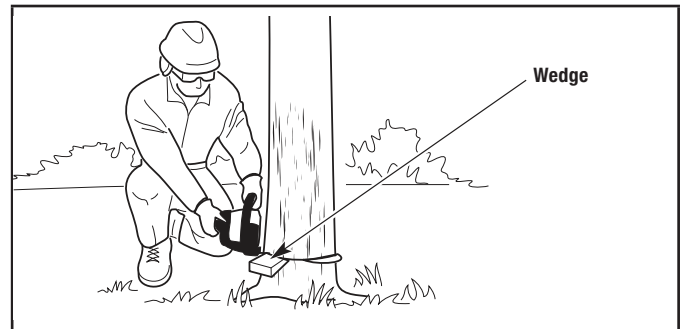

Figure 13
3. Periodically glance up during the felling back cut to see if the tree is going to fall in the correct direction. If there is a chance that the tree might not fall in the desired direction, or if the tree might rock back and bind the chain saw, remove the guide bar from the cut, stop the chainsaw and use wedges to open the cut and direct the fall (Fig. 13). Only use soft plastic or wooden wedges. Drive the wedges into the cut slowly. Once the wedges are in place and the cut is held open, either carefully reinsert the guide bar and continue the cut or slowly drive the wedges in further to push the tree over.